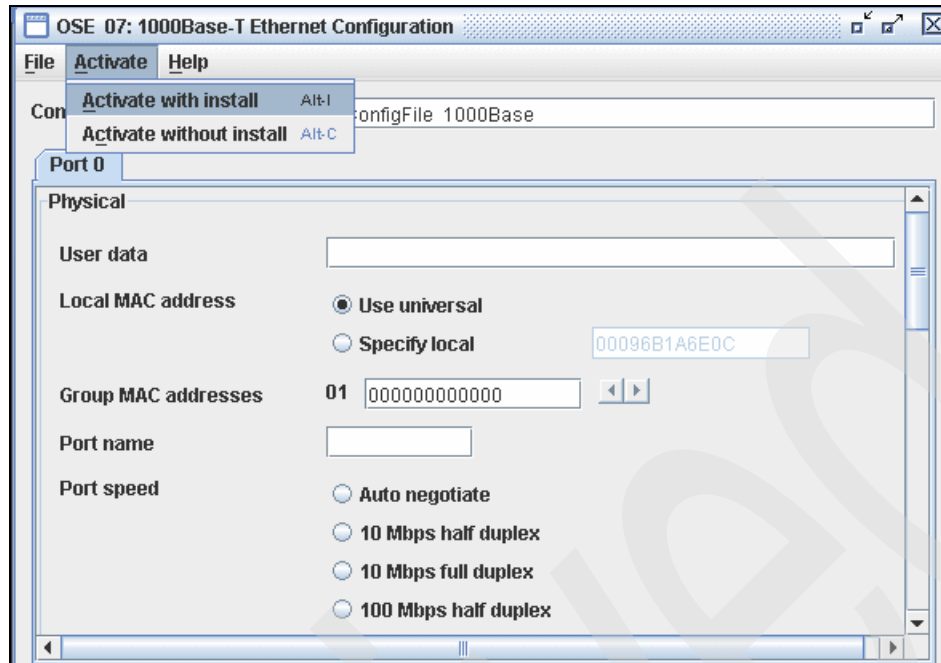

Figure 4-26 OSA/SF Workstation Interface - Install
6. Select **Activate** → **Activate with install** to restore the OSA feature configuration (Figure 4-26 on page 158).